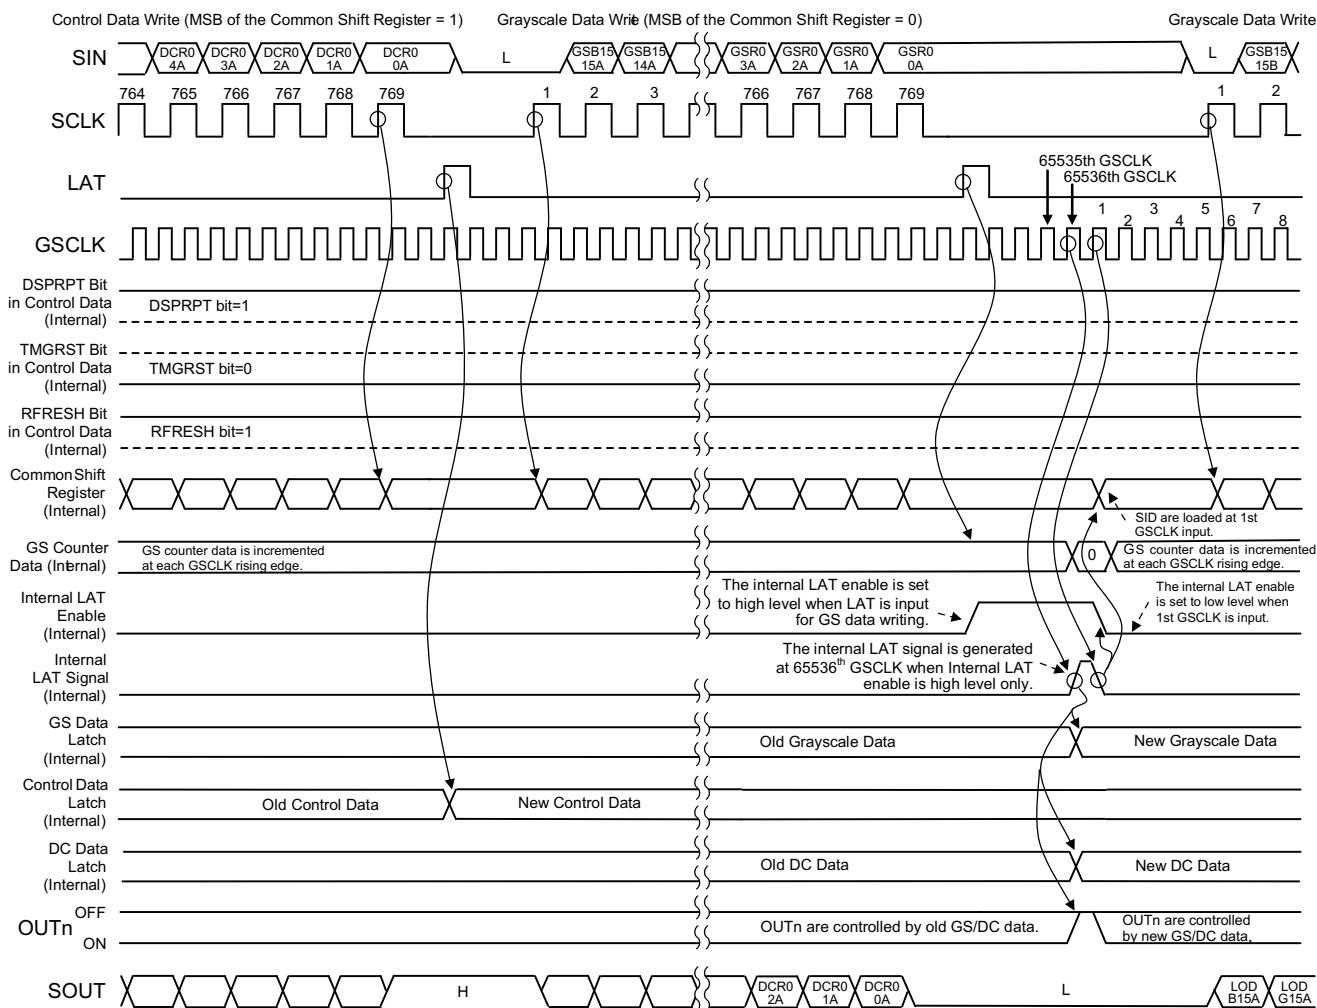
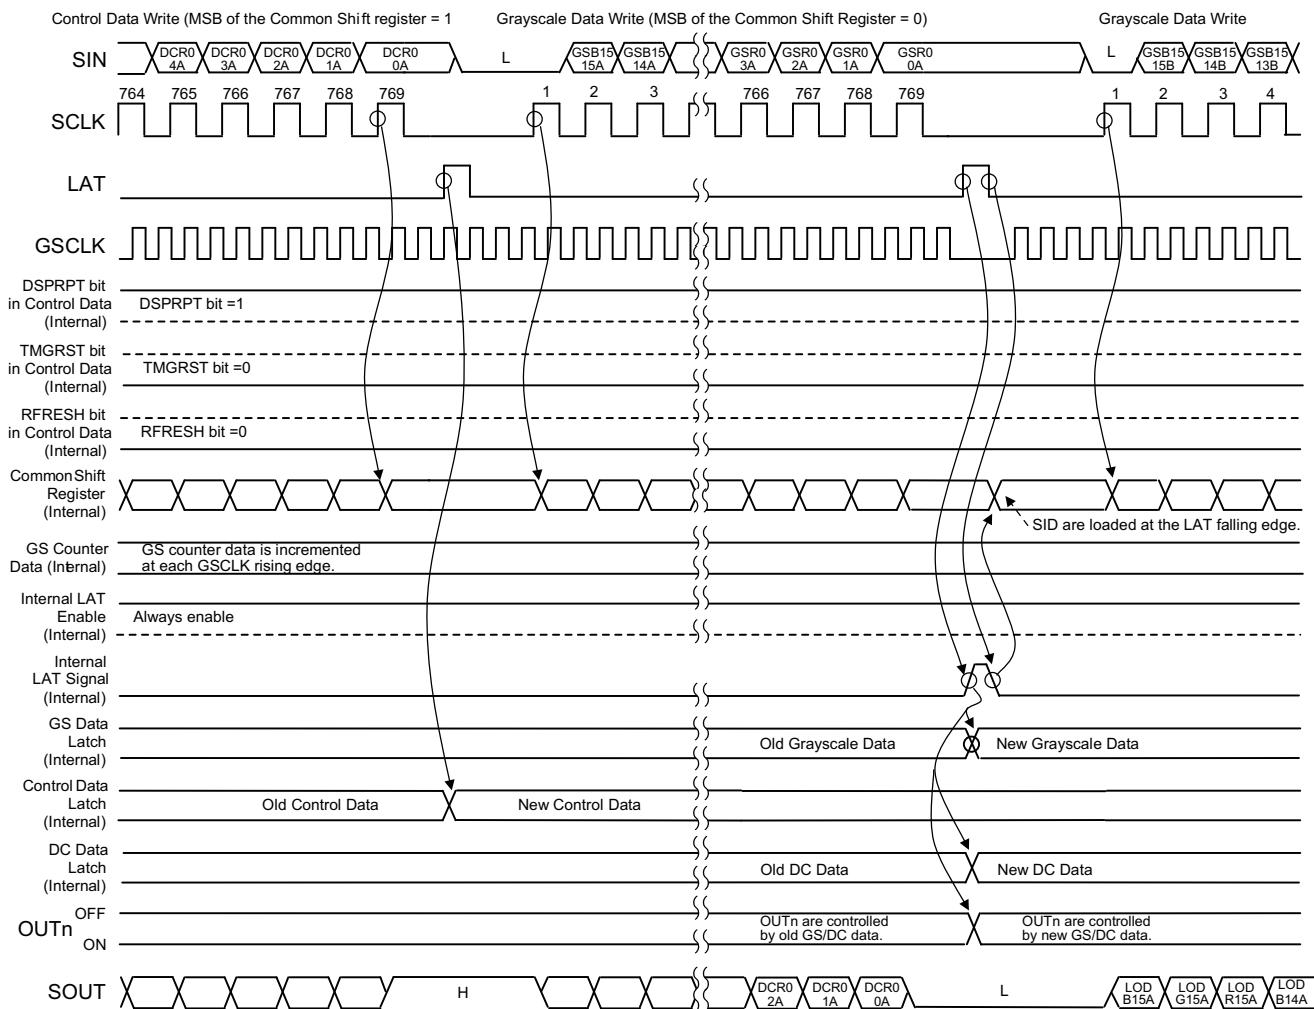

Figure 31. Auto Data Refresh Function 1 (DSPRPT = 1, TMGRST = 0, and RFRESH = 1)
Figure 32. Auto Data Refresh Function 2 (DSPRPT = 1, TMGRST = 0, and RFRESH = 0)
This function delays updating the grayscale (GS) and dot correction (DC) data until the end of one entire display period. If both DC data and GS data are written by the end of an entire display period, the input DC data are held in the control data latch and the GS data are held in the common shift register. Both DC and GS data are copied to the 336-bit DC data latch and 768-bit GS data latch at the end of an entire display period. The data latches are used for the next display period. GS data are directly copied from the common shift register to the GS data latch. Therefore, GS data must be written after the DC data are written. Furthermore, the GS data in the common shift register must not be changed until all data are copied to the GS data latch. Figure 31 and Figure 32 show timing diagrams for this function.